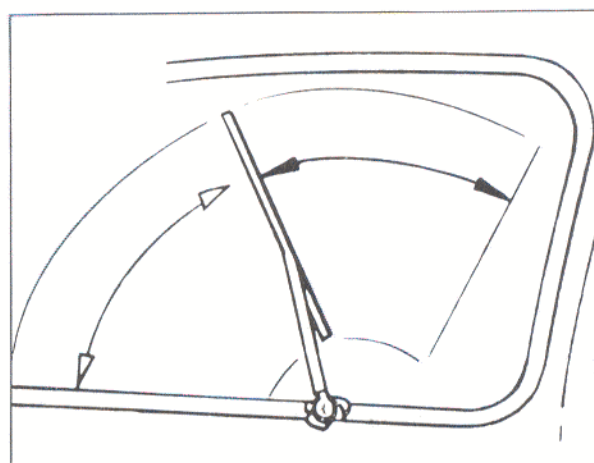

Fig. 1
1. On early production models having an auxiliary drive lever on the motor, move the wiper arms by hand up into the center of the arc, midway between the two extremities of travel (fig. 1). With the arms in this position, the motor auxiliary drive lever should be in a vertical position and should remain in vertical position during all steps of adjustment procedure.